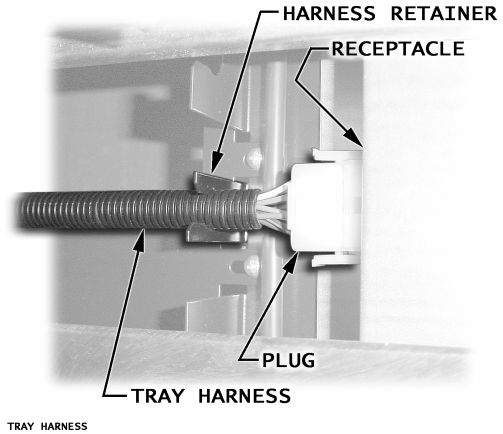

Figure 5. Tray Harness
2. Locate the harness retainer on the right side wall. See Figure 5. Pull the tray harness out of the harness retainer.